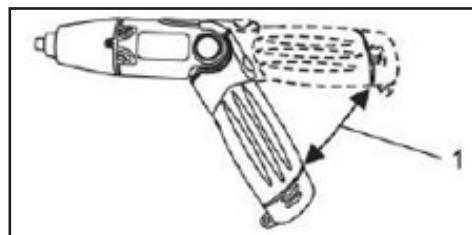

Fig.4
To pivot the handle, simply “bend” the tool in the middle to the appropriate angle (1) (Fig. 4)